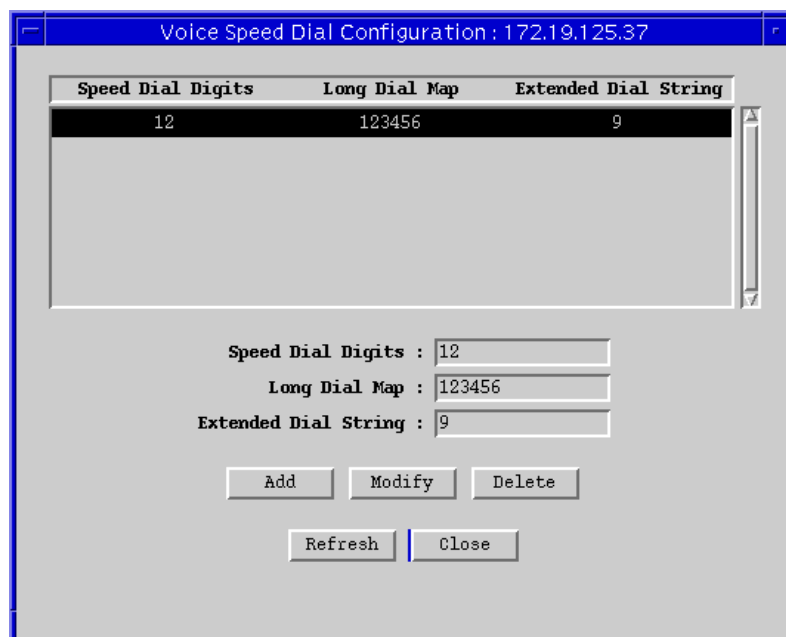

Figure 12-2. Voice Speed Dial Configuration Window
2. Drag down to **Voice Speed Dial Configuration**, and release. The Voice Speed Dial Configuration window, Figure 12-2, will appear.